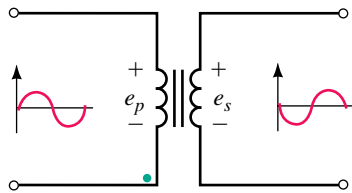

FIGURE 24-17
- For Figure 24-17, determine the position of the missing dot.